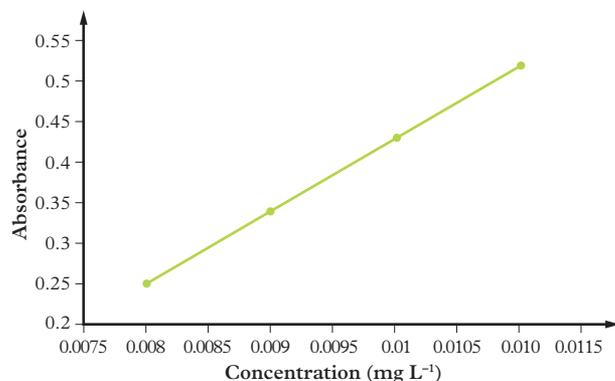

FIGURE 1 A calibration curve for Fe^{2+}
- 8 A calibration curve for Fe^{2+} is shown in Figure 1.